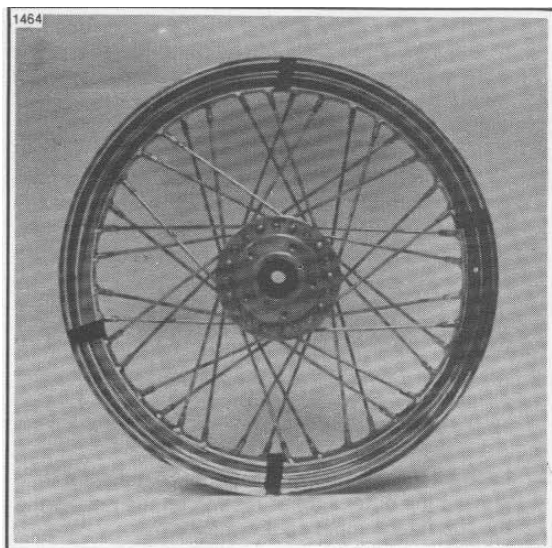

Figure 2-15. Marking Spoke Groups
1. See Figure 2-15. Divide the wheel spokes into 4 groups of 4 and mark the center of each group with a piece of tape. The groups should be directly across from one another and approximately 90° apart. Tighten the spokes in these four groups finger tight, leaving all others loose.